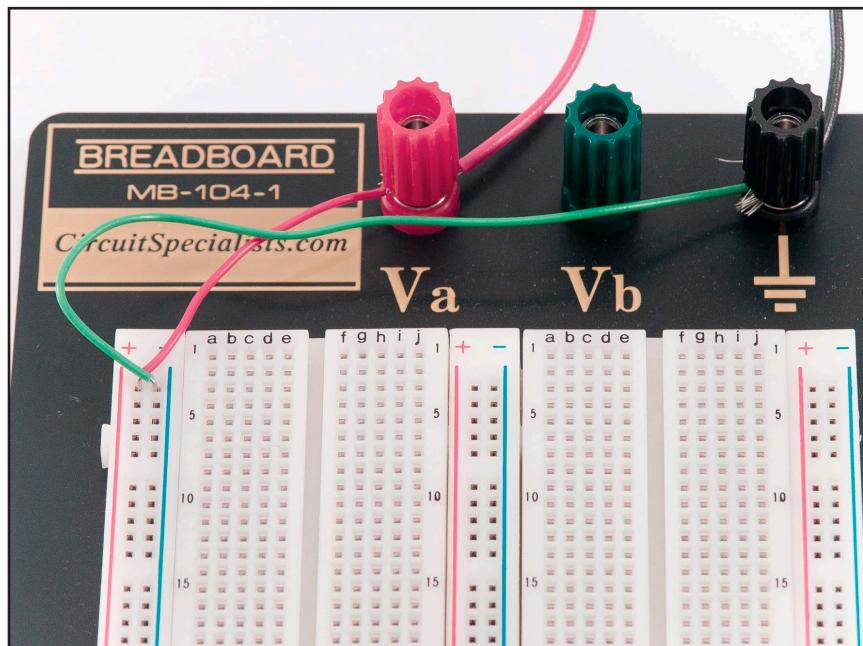

Figure 3.1 Connecting Power and Ground
4. On your breadboard, you'll see a series of red and blue lines running the length of the plastic. Connect the power supply cables to the binding posts, then use a couple pieces of spare wire to connect the binding posts to these lines (Figure 3.1).